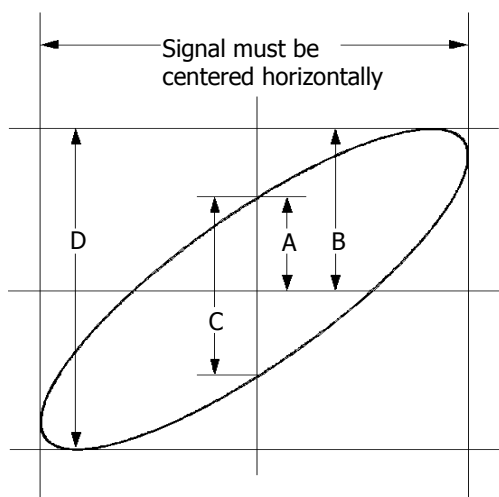

Figure 4-1 Measurement Schematic Diagram of Phase Deviation
4. Observe the measurement result shown in the figure above. According to the measurement schematic diagram of the phase deviation (as shown in Figure 4-1), $A/B(C/D)=1$. Thus, the phase deviation angle of the two channel input signals is $\theta = \pm \arcsin 1 = 90^\circ$.